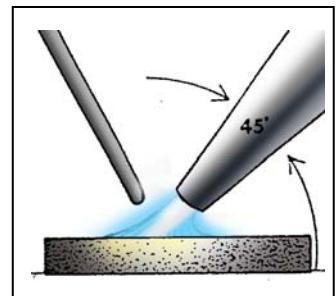

Figure 3
11. At the same time, use the other hand to bring the welding rod close to the flame for preheating. The end of the rod should be approximately $3/8$ in. from the flame and $1/16$ to $1/8$ in. from the pool surface. The rod is held at an angle to the work, usually about 45 degrees. Refer to Figure 3.